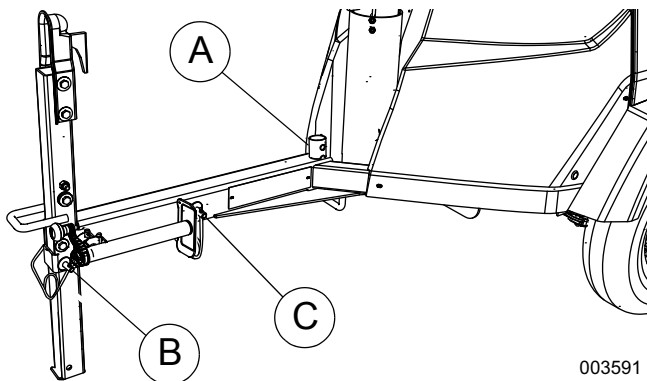

Figure 2-2. Jack and Pin Locations
NOTE: See Figure 2-2. Unit ships from factory with jack in the storage location (A).
5. See Figure 2-2. Remove pins (B) and (C).